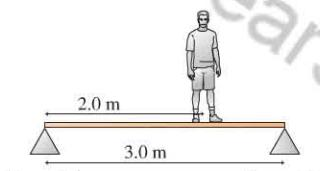

FIGURE P8.35
35. A 3.0-m-long rigid beam with a mass of 100 kg is supported at each end, as shown in Figure P8.35. An 80 kg student stands 2.0 m from support 1. How much upward force does each support exert on the beam?